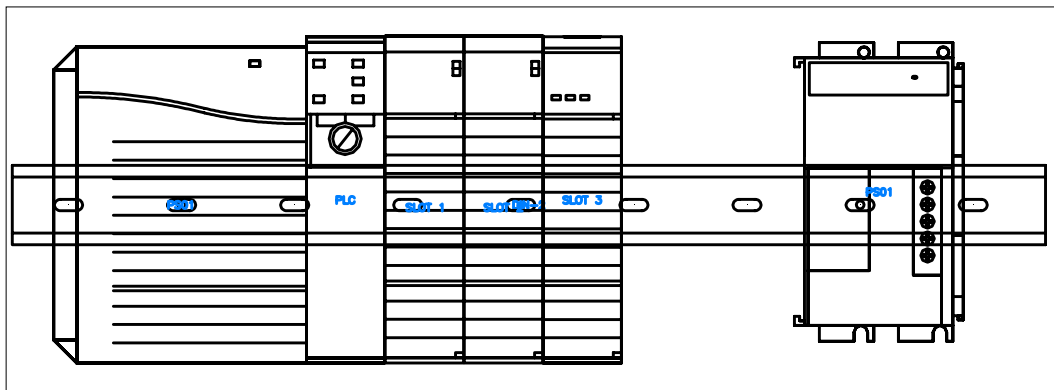
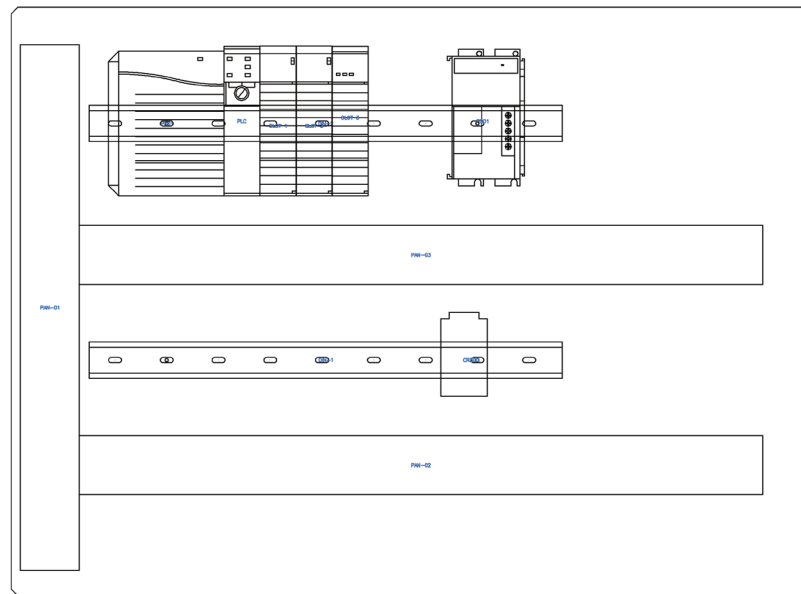

Figure P2-13 The PS01 power supply inserted in the drawing
Figure P2-14 All footprints inserted in the drawing
54. Enter **PS01** in the **Tag** edit box of the **Component Tag** area. Next, choose the **OK** button in this dialog box; the **Duplicate Panel Layout Tag** message box is displayed. Choose the **Continue** button from it and then choose the **OK** button from the **Panel Layout - Component Insert/Edit** dialog box; PS01 power supply is inserted in the drawing, as shown in Figure P2-13. Figure P2-14 shows all footprints inserted in the drawing.